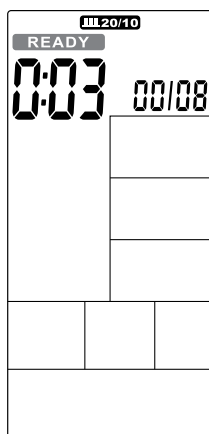

Figure 28
- ① Press INTERVAL to select INTERVAL10/20, press ENTER then **INTERVAL10/20** will light up along with buzzer beeps 1s.
- ② Cycle time counts down from 3 to 0 then console start, meanwhile buzzer beeps once per second and **READY** flashes once per second, counting displays '00/08'(Figure 28).